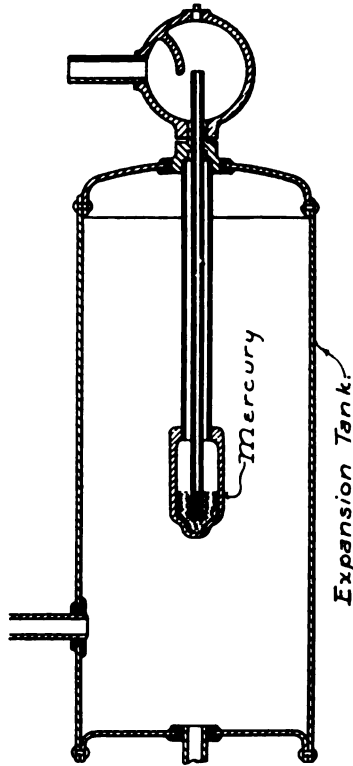

Fig. 67.—The Milwaukee Heat Generator.
A. The Pierce Heat Economizer is in many respects quite similar to the Honeywell Generator in construction and operation. The Milwaukee Heat Generator is placed in the upper part of the expansion tank with the separating chamber above the tank. Its appearance is shown by Fig. 67. The Klymax Heat Economizer